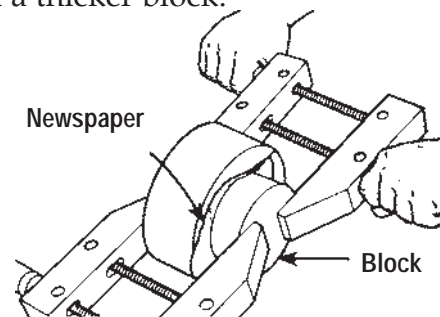

Figure C-50
-- If you don't want screw holes in the bottom of your finished turning, mount the stock to a block of wood. Select a block at least 1" thick and about the same diameter as the faceplate. Find the center of this block, then glue the block to the stock, center to center. Put two layers of newspaper in between the block and the stock when you glue them up. Leave clamped at least 24 hours. See Figure C-50.